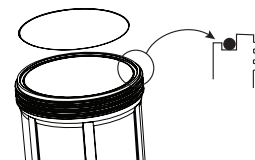

Figure 2
9. Remove one of the O-rings from its shipping bag. Lubricate O-ring with the supplied silicone grease. Insert it into the cartridge housing groove ("Figure 2") at the top edge of the housing.